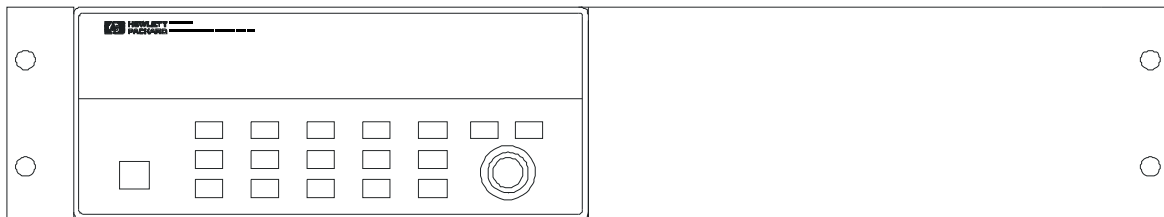

Figure 2-3. Rack Mount a Single HP 3499B - I
**Mount HP 3499B** To rack mount a single HP 3499B, the half-rack-width mainframe, order an adapter kit 5183-7172 (see Figure 2-3), or an HP Support Shelf 5063-9255, a slide kit 1494-0015 and a filler panel 5002-3999 (see Figure 2-4).